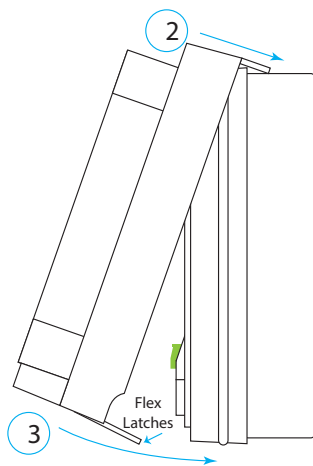

Fig. 6
2. Attach the cover by first placing the top latch over the ridge and housing seam of the IB7000 (Fig. 6).
3. Then, hinge the bottom part of the cover onto the bottom part of the IB7000. If there is resistance, the bottom latches are flexible and can be pried onto the IB7000 (Fig. 6).